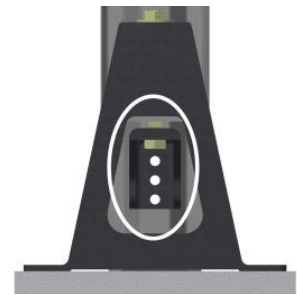

Figure 2: Mark holes of the C-Channel on the legs
3. Mark the holes of the C-channel on the leg and drill using a **1/2"** drill bit. (**Figure 2**)